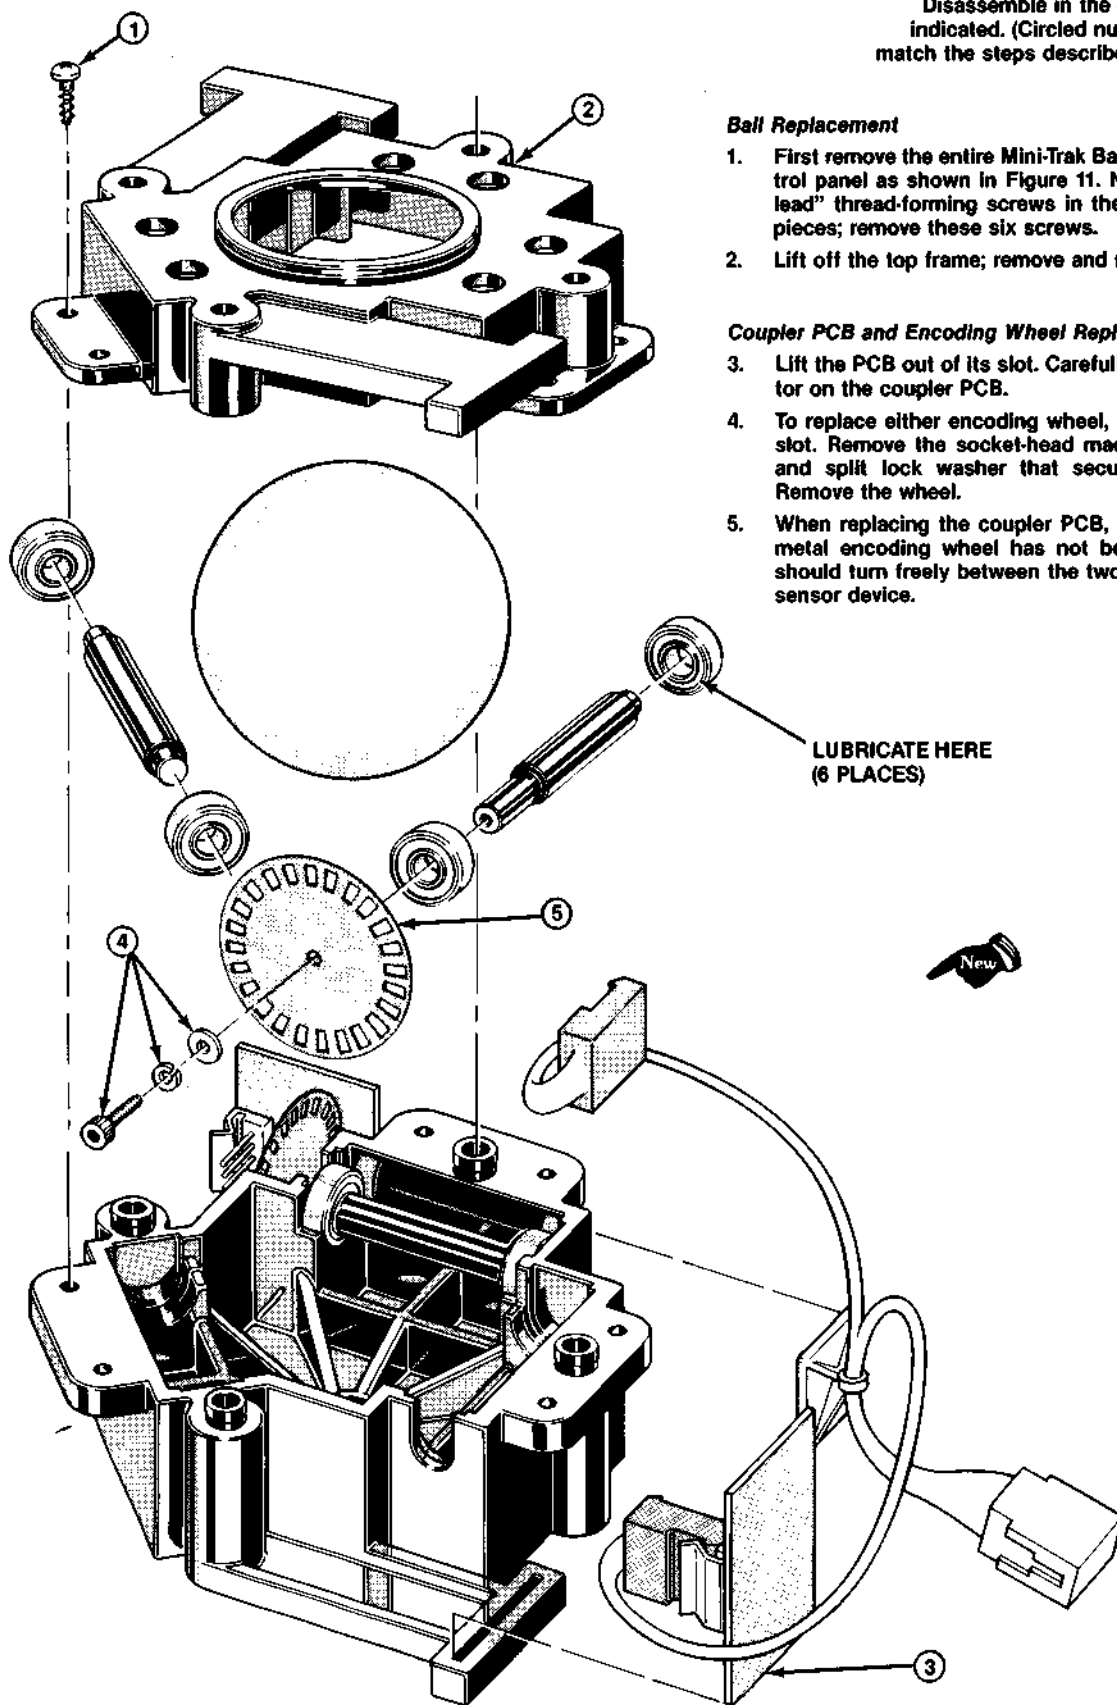

Figure 11 Mini-Trak Ball™ Maintenance and Repair
For further instructions on how to replace the ball, either coupler PCB or either encoding wheel, see Figure 11.
1. First remove the entire Mini-Trak Ball assembly from the control panel as shown in Figure 11. Now locate the six "twin-lead" thread-forming screws in the black frames or plastic pieces; remove these six screws.